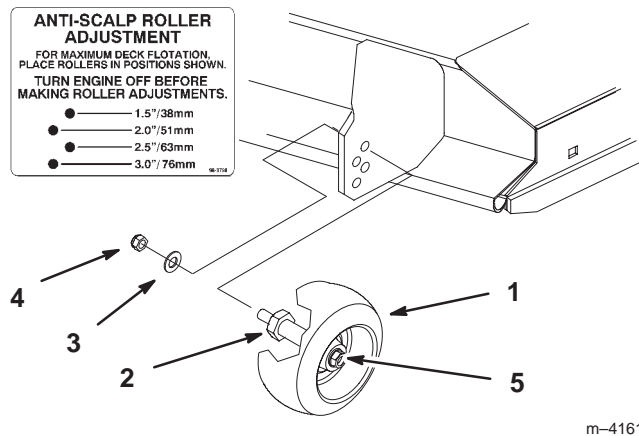

Figure 23
2. After adjusting height-of-cut remove flange nut and spring disk while holding stud with wrench (Fig. 23).
Note: Do not remove the wheel nut and washer (Fig. 23).
3. Select hole so gage wheel is positioned to the nearest corresponding height-of-cut desired (Fig. 23).
4. Reinstall the flange nut and spring disk. Torque to 40–45 ft-lb. (54–61 N•m) (Fig. 23).